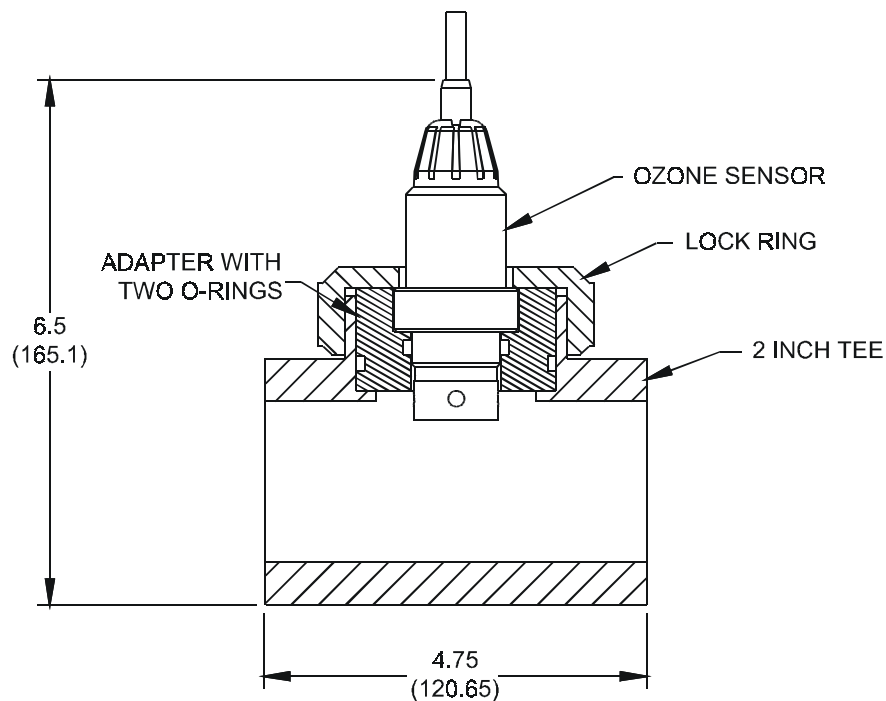

FIGURE 2-2
1. Refer to Figure 2-2 and install the special GLI union tee in the process (or sample bypass) line. Remove the lock ring from the tee.